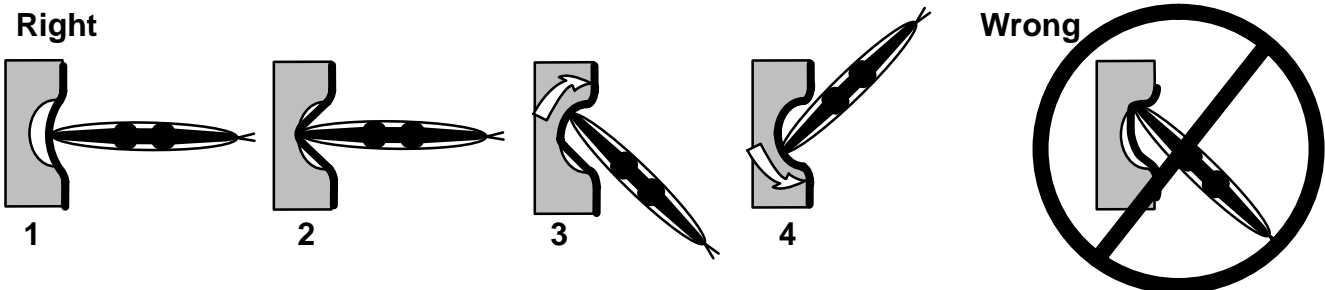

Figure 1. Right and Wrong Technique For Stretching Heated Film into Channels
- c. To apply film into concave channels, use cotton gloves or use a squeegee with a low friction sleeve or Scotchmate loop material. Press the heated and softened film into the middle of the channel first so that the film is stretched evenly across the channel. See Figure 1.